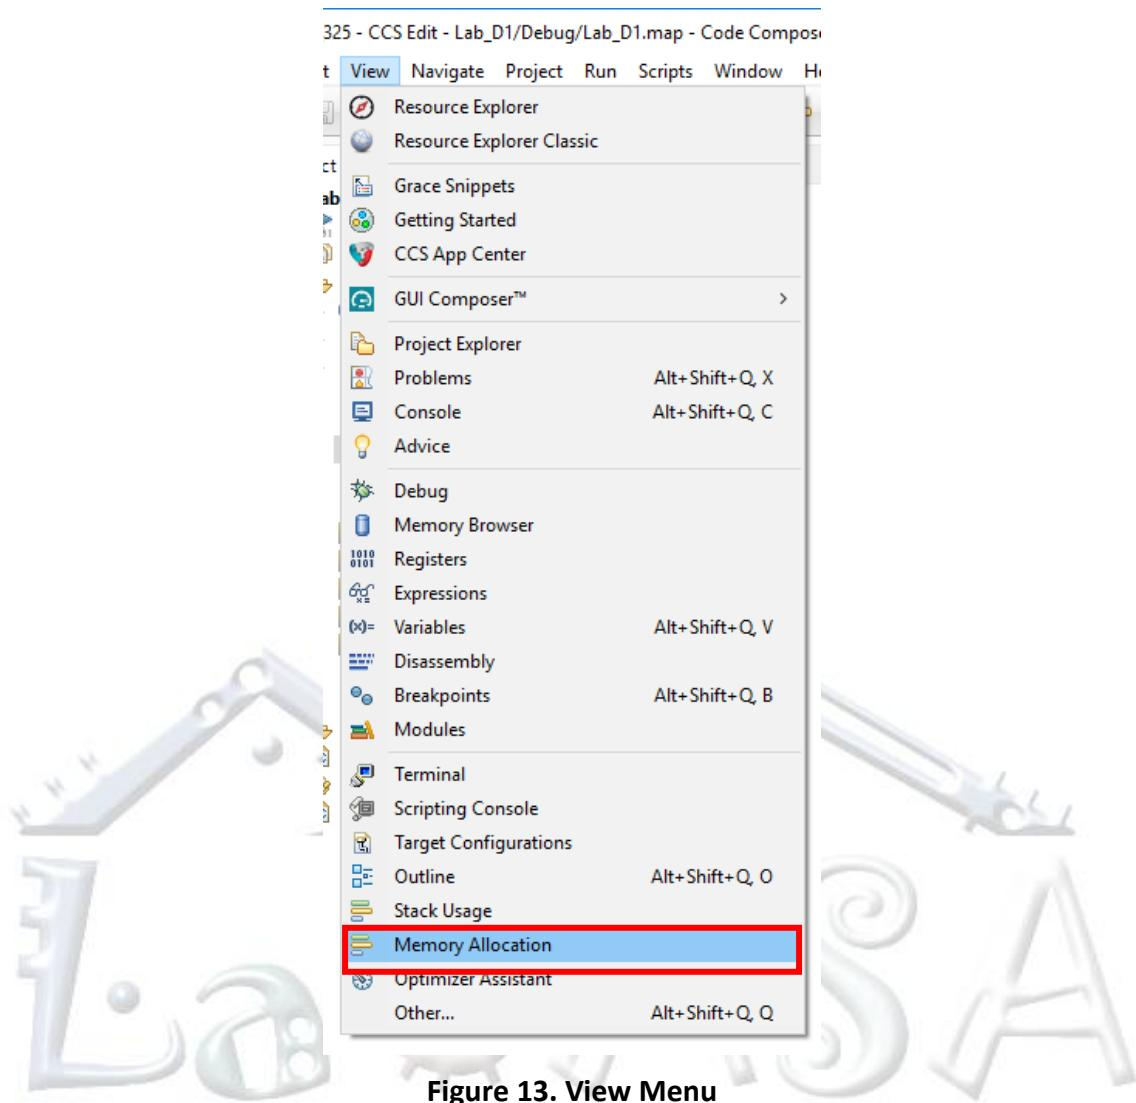
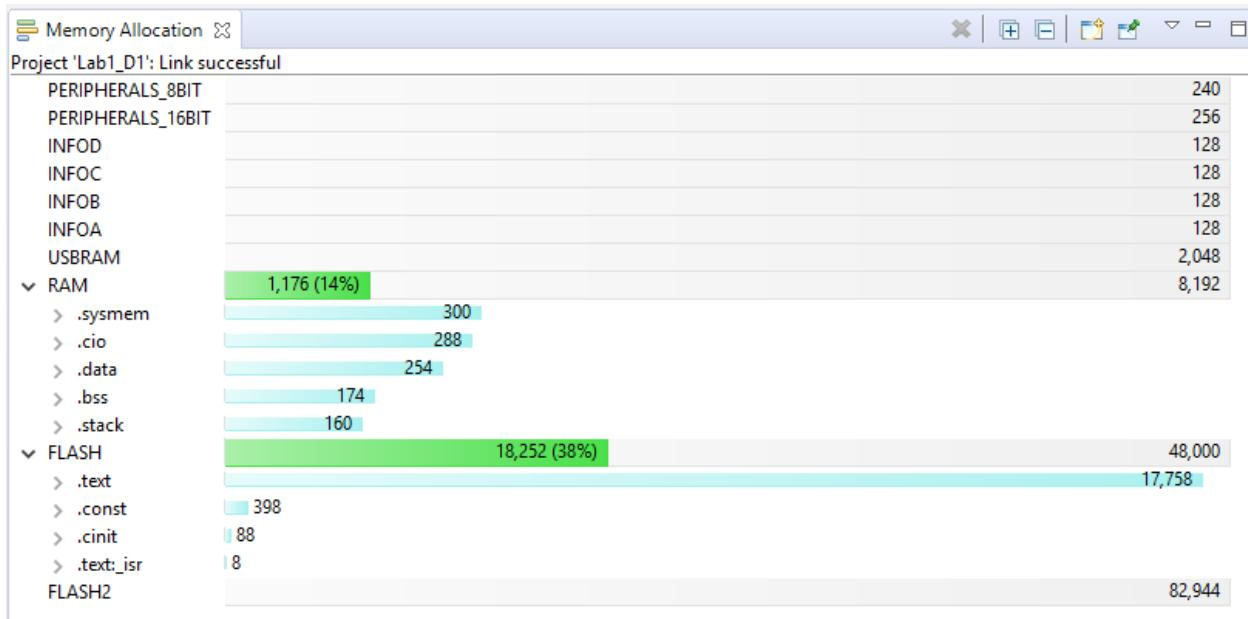

Figure 13. View Menu
Figure 14. Memory Allocation Table
Step 6. Open the map file from the debug folder and examine the different sections and the space they will use in memory. The formatting can take some getting used to but there are several tools available for graphical analysis, including one inside of CCS. From the menu bar select “Memory Allocation” (Figure 13) inside “View” menu. Examine the Memory Allocation table to see which sections are placed into which type of memory (Figure 14).